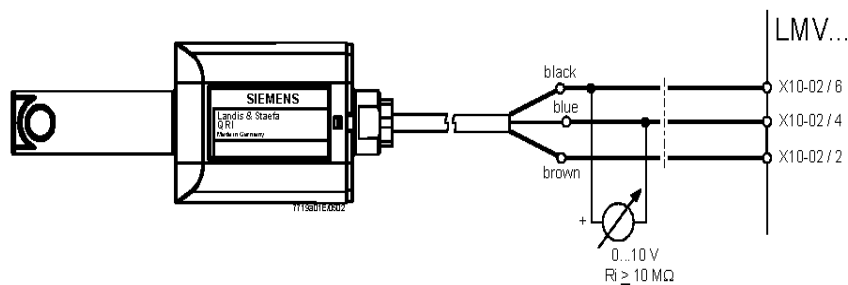

Fig. 2 - Detection with detector QRI...
1. Position VD on VB, fig. 2+3.